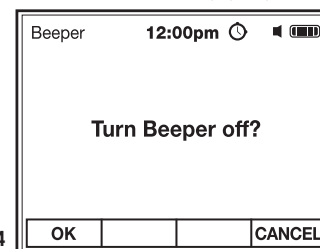

Fig. 24
2. Use the **F1 OK** soft key to turn the beeper on or off and return to Meter Settings (Fig. 24). The  symbol will appear on the display when the beeper is on.